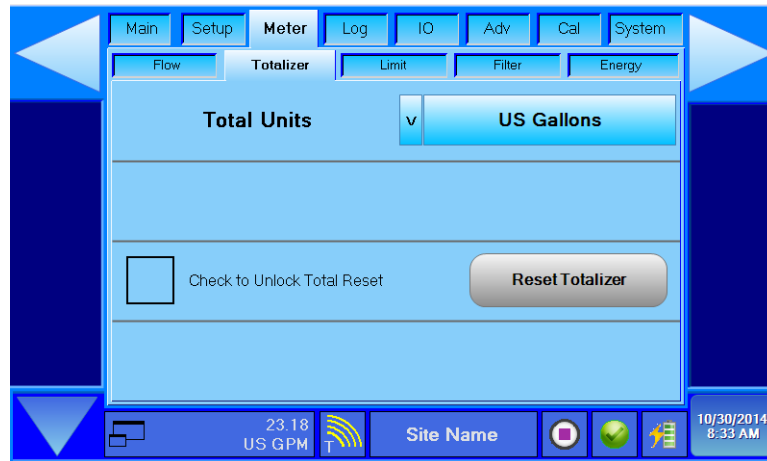

Figure 67: Totalizer setups
1. Press **Check To Unlock Total Reset** box (See *Figure 67*). A checkmark appears in the box. The *Reset Totalizer* option becomes active.